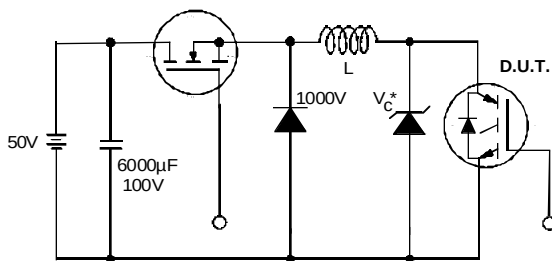

Fig. 19 - Clamped Inductive Load Test Circuit
- ② T_J = 125°C, V_{CC}=80% (V_{CES}), V_{GE}=20V, L=10μH, R_G = 23Ω, (See fig. 19)
- ③ Pulse width ≤ 80μs; duty factor ≤ 0.1%.
- ④ Pulse width 5.0μs, single shot.